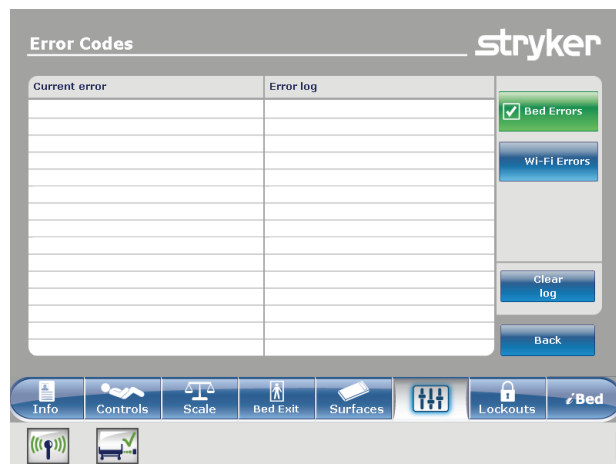

Figure 93: Error Codes
**Error Codes:** Displays the current active errors and the error log (Figure 93 on page 86). See the **InTouch** maintenance manual for the definition of the error codes.